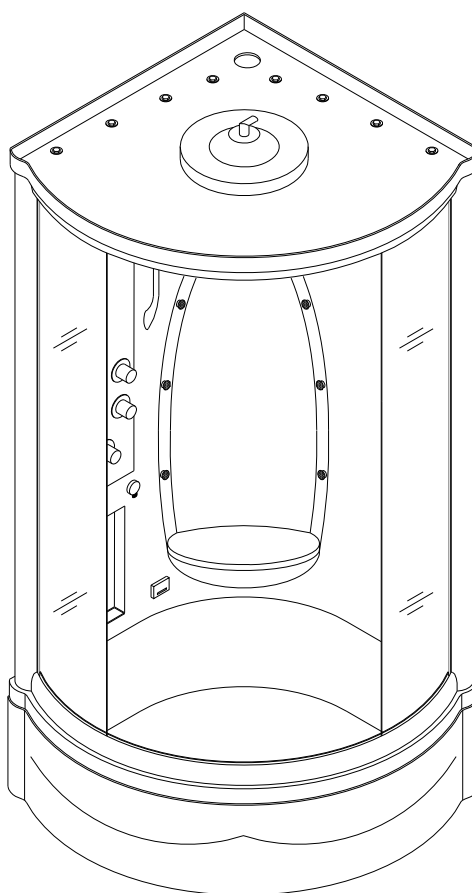

Fig 12
10. Clean the top surface of the built enclosure assembly and apply a layer of silicone. Put the **Roof (2)** on the fixed shower enclosure and using **Bolt M6x20 with nut, washer (13)** connect it to the back panel. See Fig 11 and Fig 12 for details.